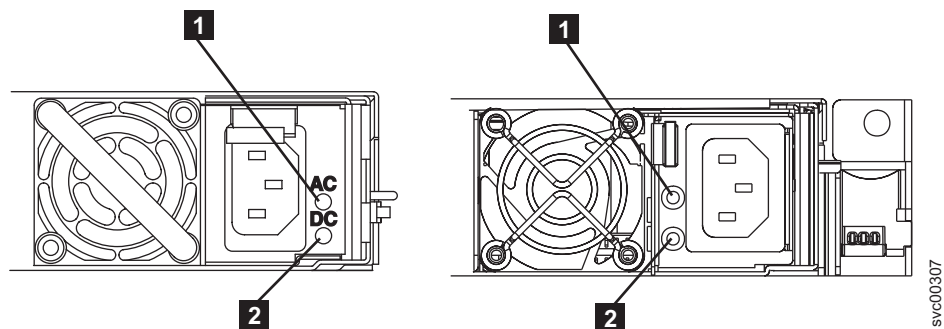
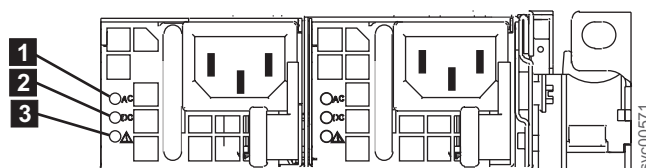

Figure 80. SAN Volume Controller models 2145-8G4 and 2145-8F4 or 2145-8F2 ac and dc LED indicators on the rear panel
Figure 81. Power LED indicator and ac and dc indicators on the rear panel of the SAN Volume Controller 2145-CG8 or 2145-CF8
**Are the ac LED indicators on the rear of the power supply assemblies illuminated?** Figure 80 shows the location of the ac LED **1** and the dc LED **2** on the rear of the power supply assembly that is on the rear panel of the 2145-8G4, 2145-8F4, or 2145-8F2 nodes. Figure 81 shows the location of the ac LED **1** and the dc LED **2** on the rear of the power supply assembly that is on the rear panel of the 2145-CF8 or the 2145-CG8.